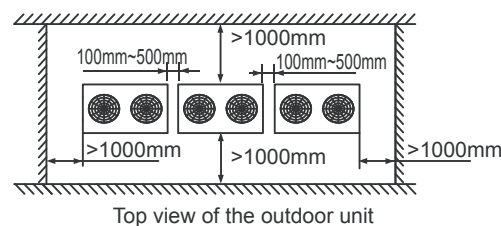

Fig.4-12
- When installing the unit, leave a space for maintenance shown in Fig.4-12 Install the power supply at the side of the outdoor unit. For installation procedure, see the power supply device Installation manual.